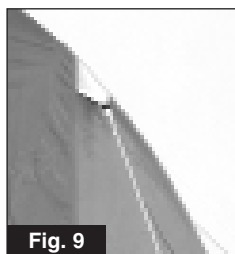

Fig. 9
7. Tie guylines (5 total) onto web straps located on the sides and back of the rainfly, stretch until taut, and secure with stakes. (Fig 9 & 10)